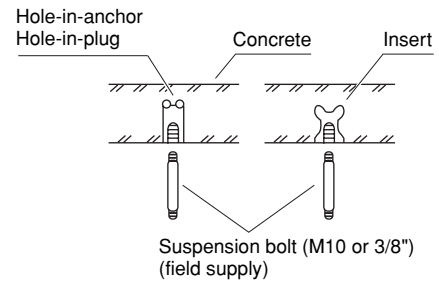

Fig. 3-79
- Insert suspension bolts as shown in Fig. 3-79
- (2) Screw in the suspension bolts allowing them to protrude from the ceiling as shown in Fig. 3-79. (Cut the ceiling material, if necessary.)